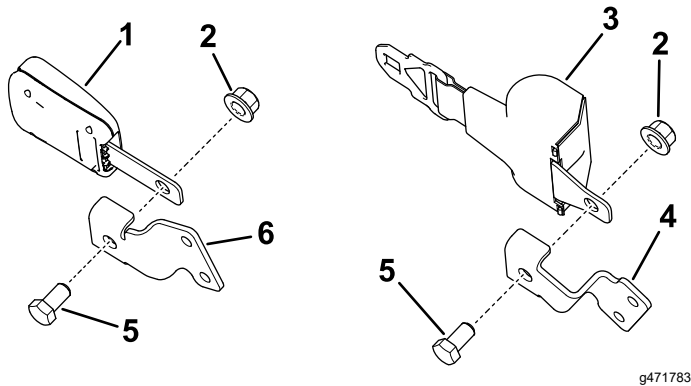

Figure 9
1. Assemble the seat belts by attaching the buckle and tongue to the inside of the seat-belt brackets using 2 hex-head bolts (1/2 x 1 inch) and 2 locknuts (1/2 inch) as shown in Figure 9.